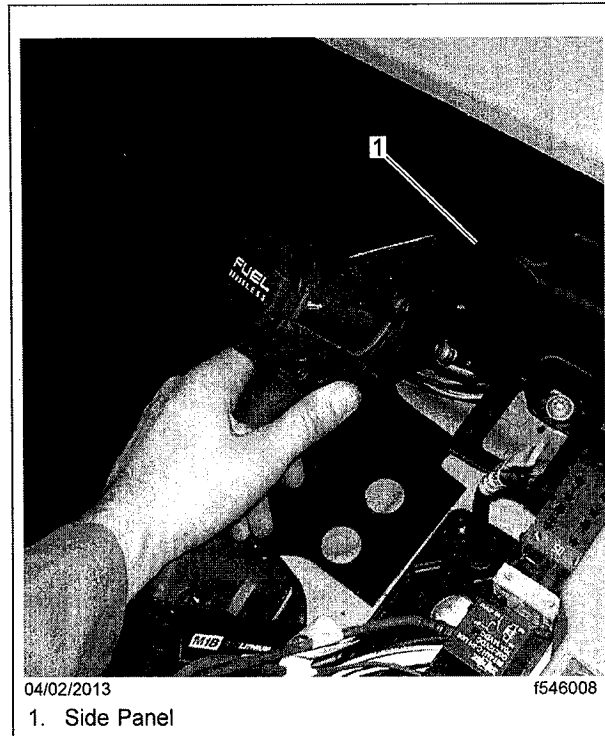

Fig. 2, Under Bunk Side Panel Removal
- On Sleepercabs without a driver-side luggage compartment, raise the lower bunk and remove the support panel. Remove the bolt that secures the side panel to the cab floor, then remove the side panel. See **Fig. 2**.